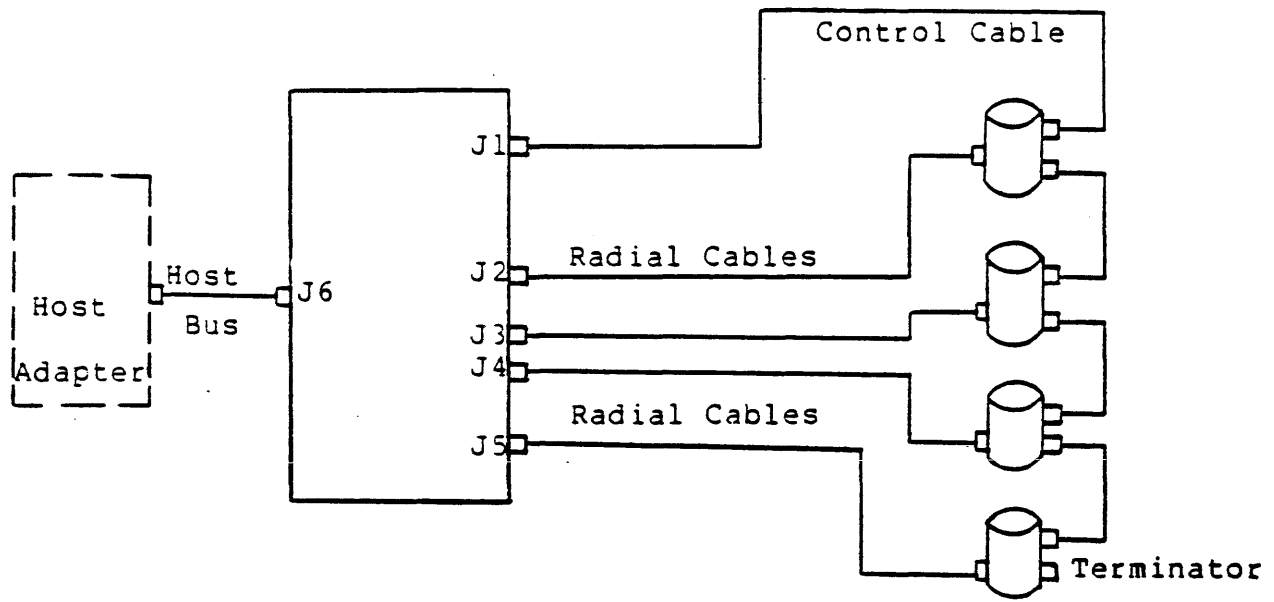

Figure 2.1
The controller and data separator comprise a single PCB. A maximum of four (4) 4000 series drives may be connected as shown in Fig. 2.1.